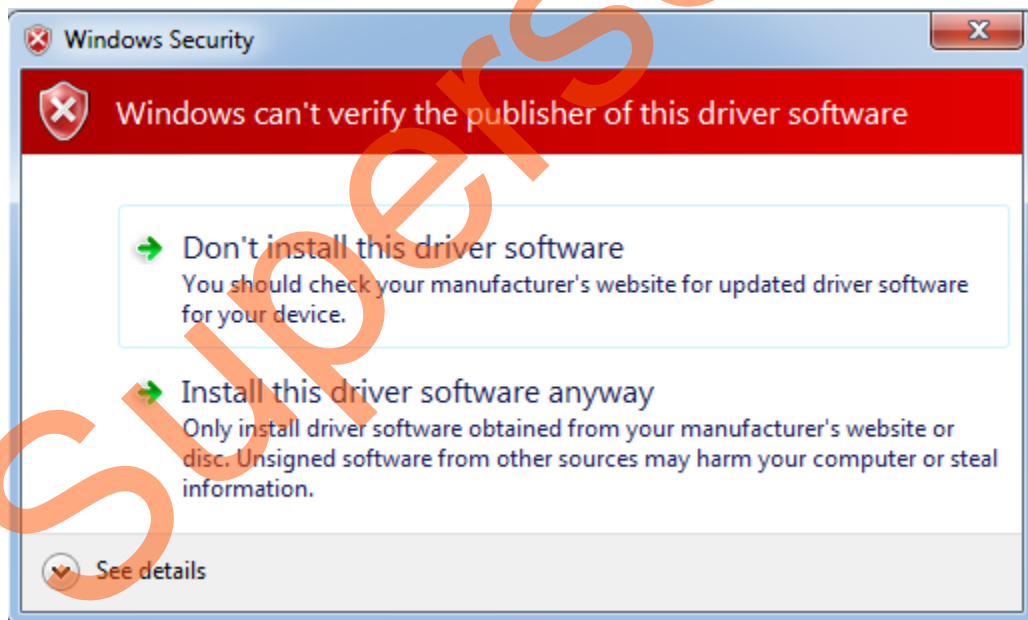

Figure 15 • Windows Security
4. Click **Install this driver software anyway** if the window appears as shown in Figure 15.